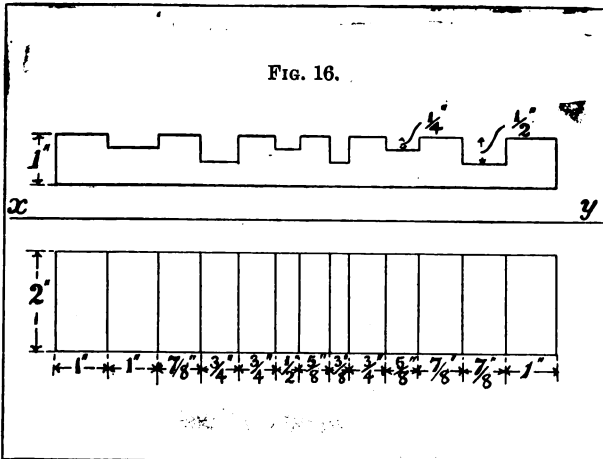

Fig. 17.
**DRAWING.**—The difficulty is only slightly increased, and another isometric view of the block A is given (Fig. 17), also oblique projections in two positions (Figs. 18, 19).